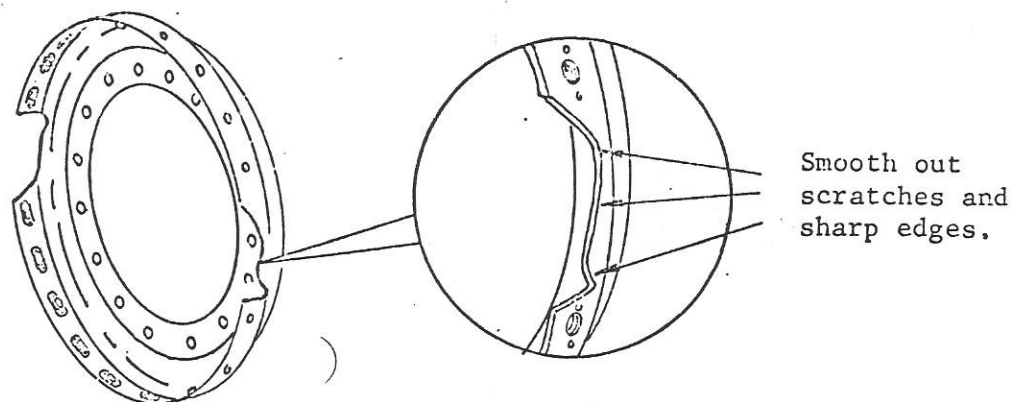

Figure 4. Backplate clean-up.
- Remove the twelve (12) backplate attaching nuts and washers and remove the backplate.
- Carefully smooth out the propeller cutout areas in the back plate as shown on figure 4. These areas should be sufficiently smoothed to eliminate all scratches and sharp edges. NOTE: If cracks are found in backplate, it must be replaced. Replacement backplates will have doublers installed.